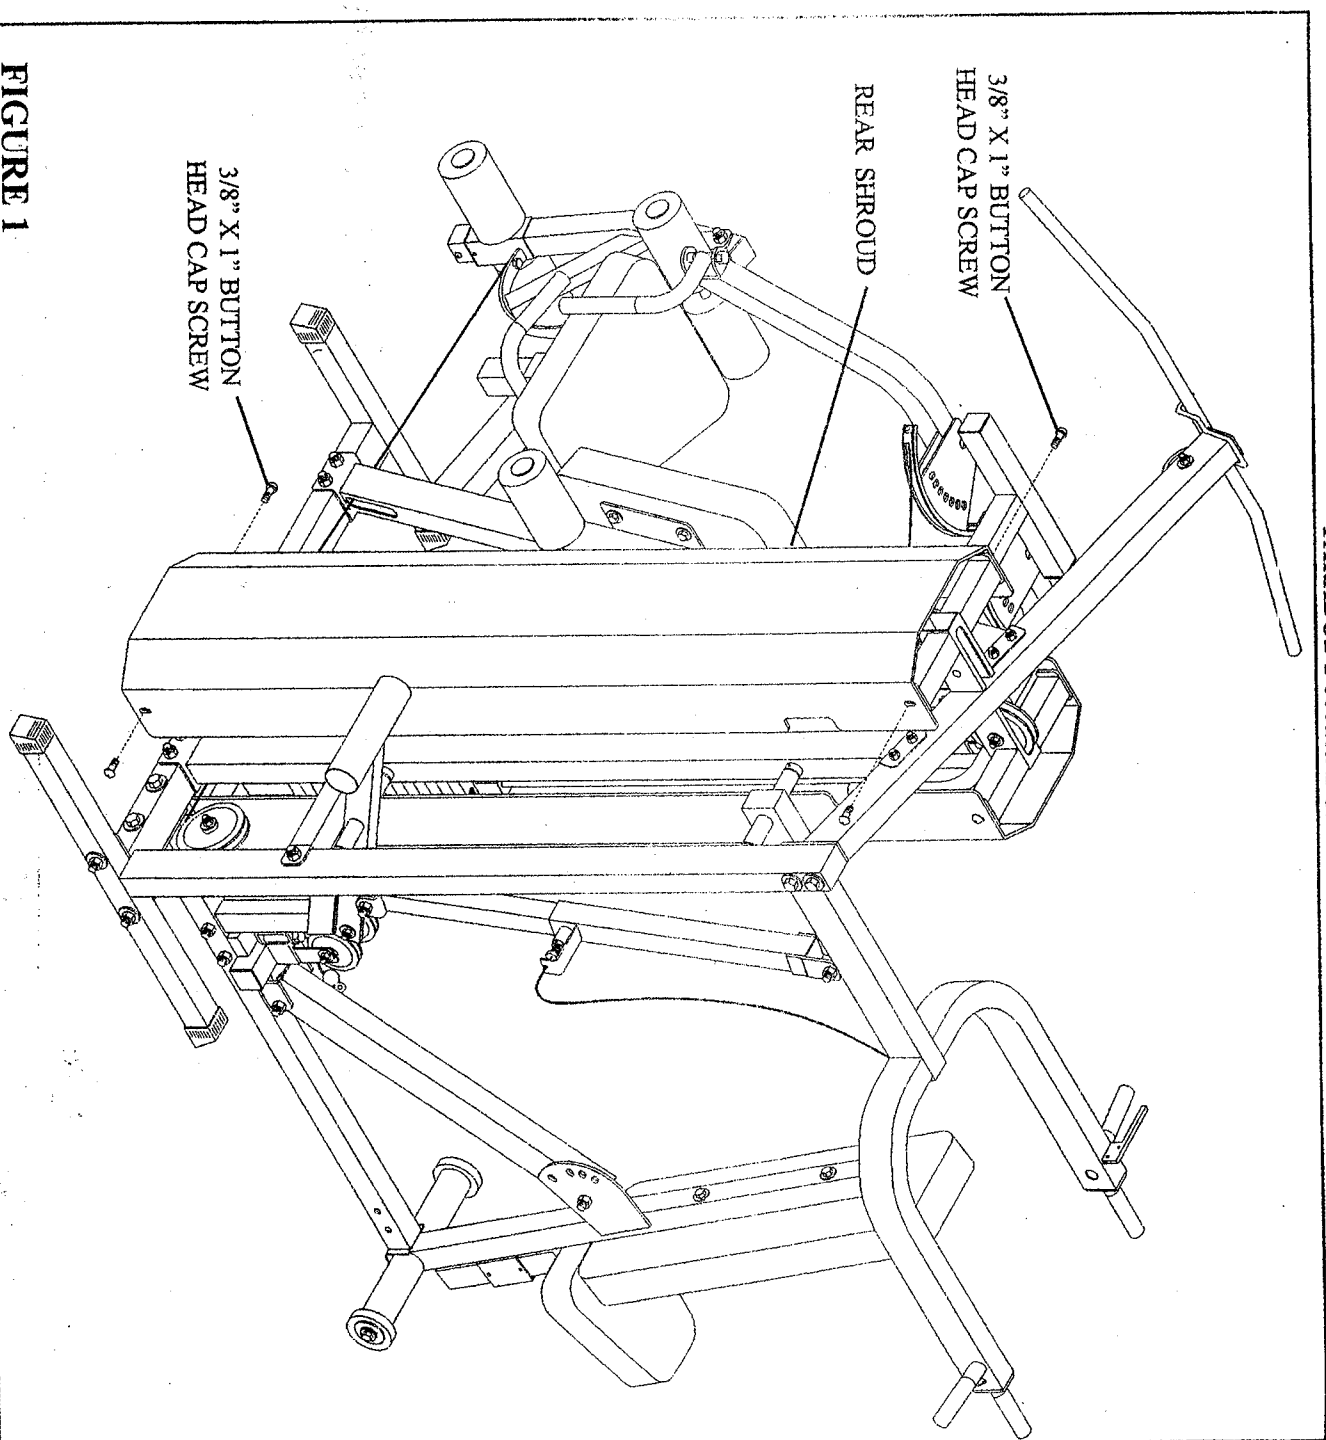

FIGURE 1
- REMOVE the four 3/8" X 1" BUTTON HEAD CAP SCREWS from the rear SHROUD. Remove the SHROUD from the 660101 HOME GYM. See FIGURE 1.